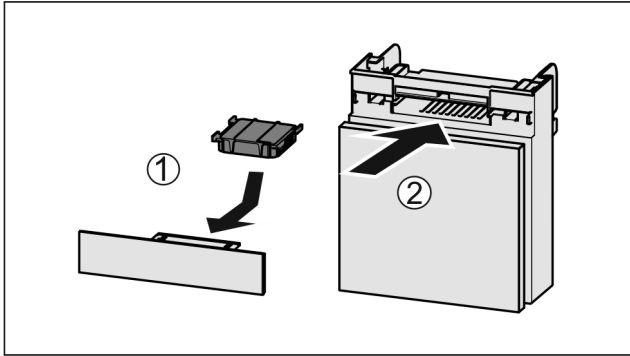

Fig. 74
- ▶ Insert the carbon filter as shown in the diagram Fig. 74 (1).
- ▶ Push the compartment in Fig. 74 (2).